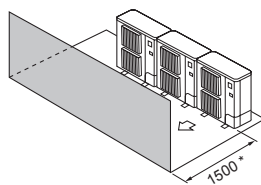

Fig. 2-15
- (3) Obstacles at front only (Fig. 2-15)